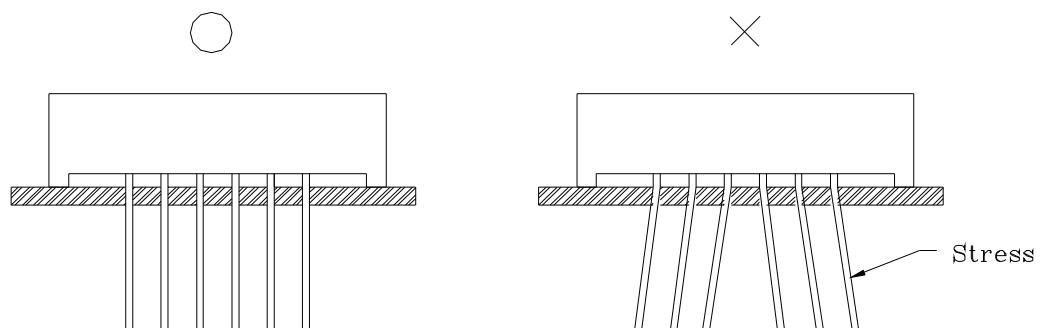

Fig.6
- 3) Form the PIN to ensure alignment between the PIN and the hole on board, so that stress against the Display is prevented. (Fig.6)